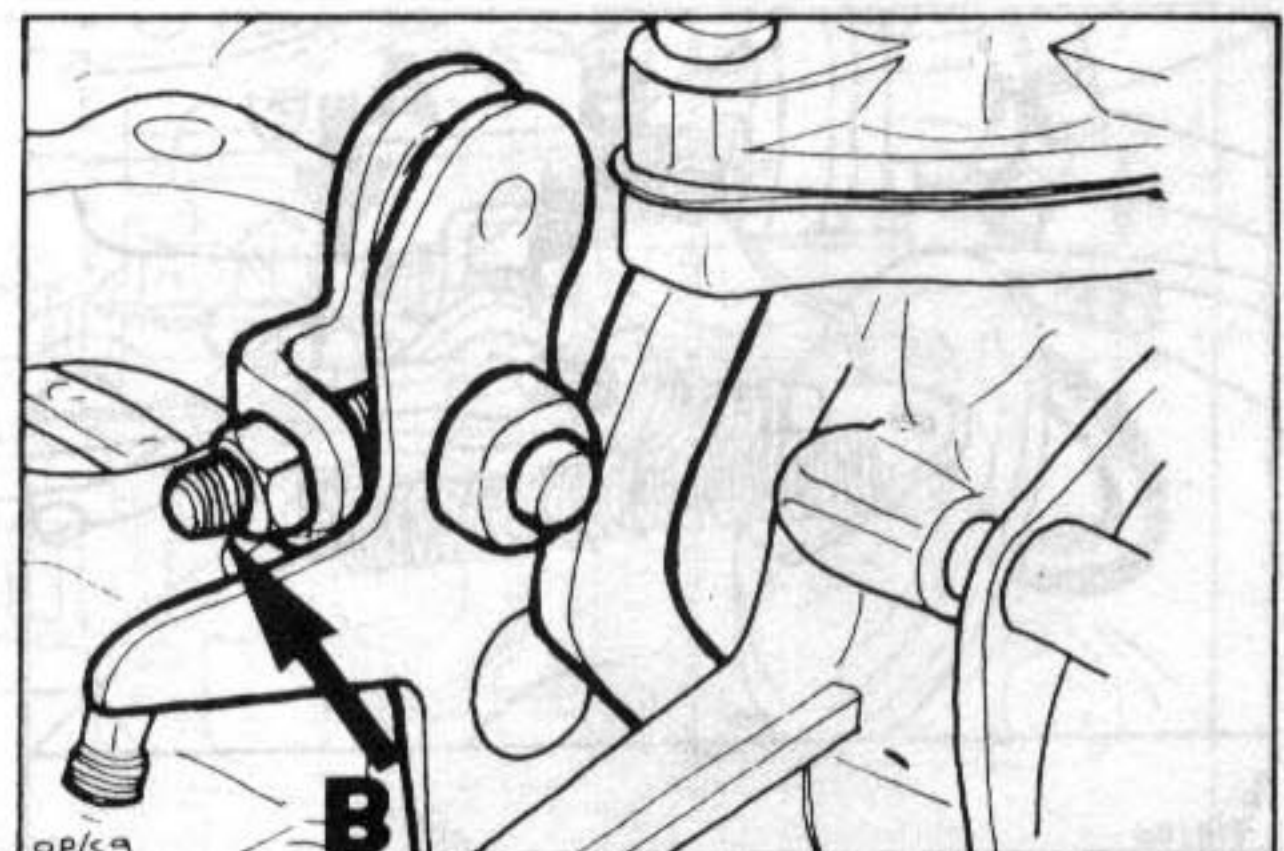

Fig. 9 Roller travel adjustment
- With throttle plate in idle position, slacken stop screw (B) until it is just touching throttle lever (Fig. 9).